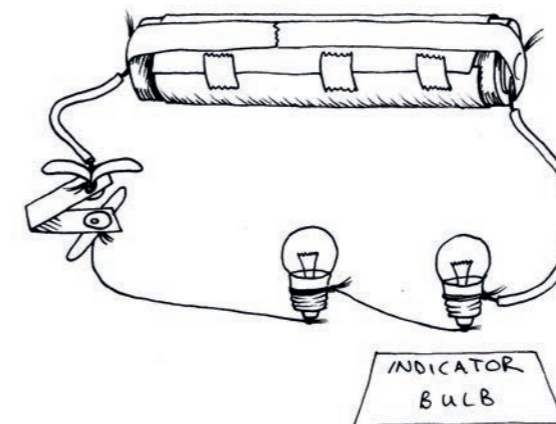

Figure 4
2. Now connect another bulb in the circuit as shown in Figure 4.
The indicator bulb (as well as the other bulbs) is glowing even dimmer than in the circuit in Figure 4. So the current is now even smaller than it was in the circuit in Figure 4.
Figure 4 shows two light bulbs connected in series to make them light up. Connect them again and try to remember how brightly the indicator light bulb glows.
For a start, cover the two bulbs on the left with your hand, and look only at the indicator bulb on the right. It now glows more brightly than it did in the circuit in Figure 4.